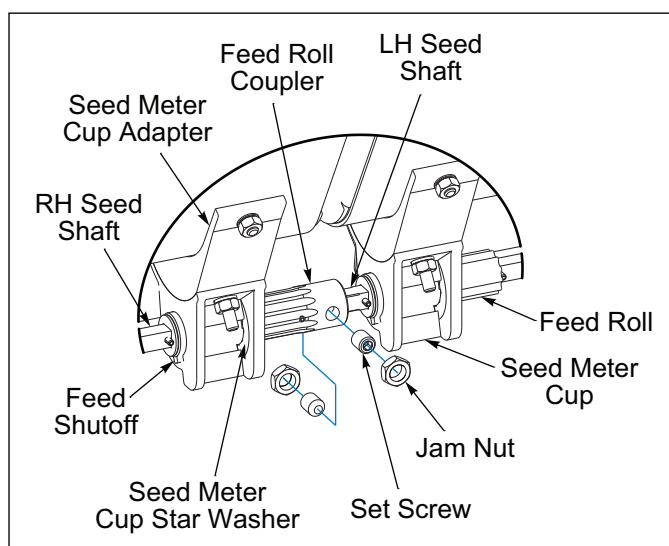

Figure 4-7: Seed Shaft Coupler
All Seed Meters should be closed. Seed Meter Feed Shutoff against Seed Meter Cup Star Washer in Seed Meter Cup. **See Figure 4-7.** If not, there are three adjustments to make as needed.
2. Seed Box Feed Roll Coupling which joins the left and right Seed Shafts changes Seed Meters on the left Seed Box in comparison with Seed Meters on the right Seed Box. To adjust Feed Roll Coupling, loosen Jam Nuts and Set Screws on Coupling RH Seed Shaft is treaded into Coupling. Turn RH Seed Shaft threading it in or out as needed to equalize Seed Meters. Re-tighten Set Screws against flat side on Seed Shaft, re-tighten Jam Nuts. **See Figure 4-7.**